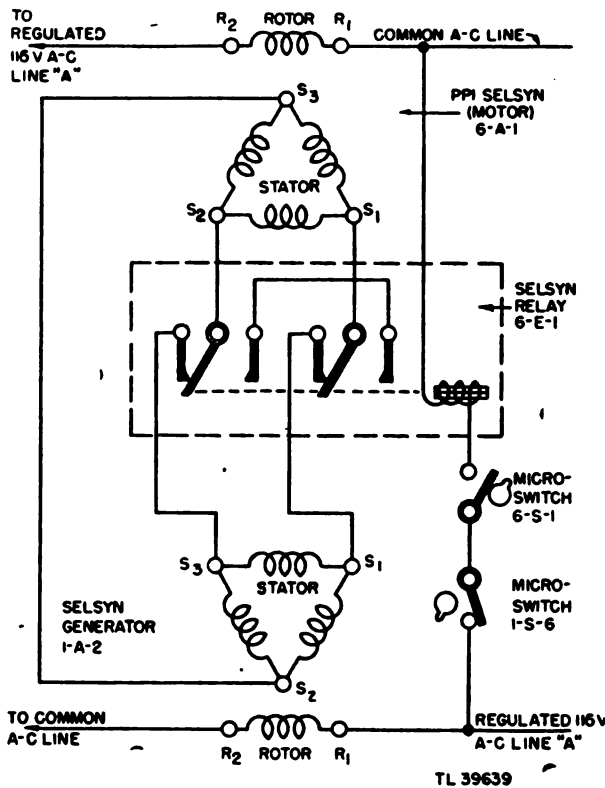

Figure 133. Selsyn system, simplified schematic diagram showing correct alignment of microswitch cams.
(2) A simplified schematic diagram of the selsyn system is shown in figure 133. Note that the two microswitches and the selsyn relay are all in series between the a-c common and 116-volt lines. Microswitch 6-S-1 is normally open. Thus, no complete circuit exists and relay 6-E-1 is not energized. Assume proper orientation of the microswitches. The cycle of operation is as follows: As the spinner unit rotates, microswitch 1-S-6 opens the a-c circuit (when the cam presses against the switch). Three degrees later (the spinner cam is 6° wider than the indicator unit